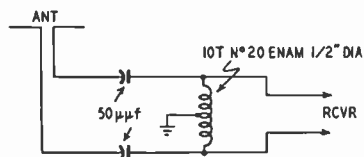

Fig. 304. Circuit for reduction of ignition noise pickup.
2. Connect two  $50\text{-}\mu\mu\text{f}$  capacitors in series with the antenna line and a center-tapped coil as shown in Fig. 304.